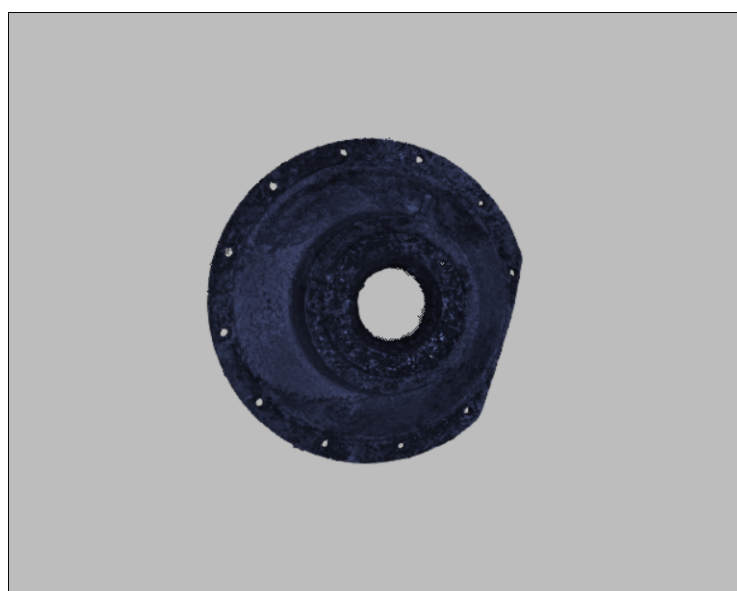

Figure 114: Alignment result.
3. Click *Align*. The result should be as Figure 114 depicts. If you are dissatisfied with this result, click  and follow the recommendations in Best Fit Alignment with Points.